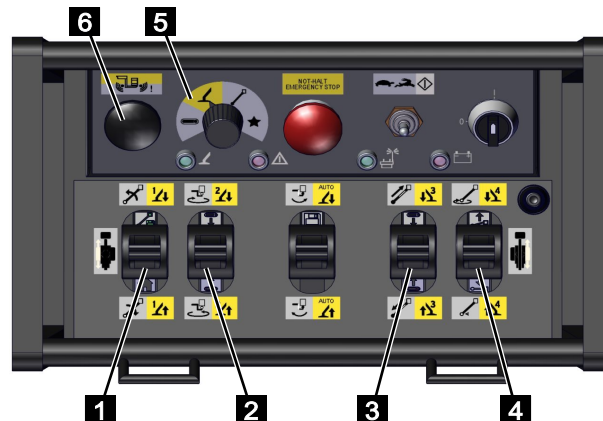

Fig. 149
3. Set the function selector to [bracing function] (yellow) (Fig.149/5).
4. Press and hold the collision button (Fig.149/6).
5. Use the control levers (Fig.149/1, 2, 3 and 4) to move the desired outrigger(s) as shown in the following table.